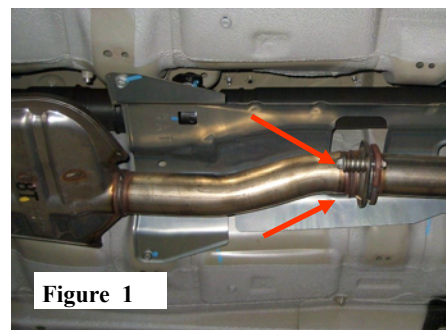

Figure 1
1. Unbolt the flange shown located just in front of the mid-muffler. Place the hardware to the side for use during the installation of your new exhaust system. (See figure 1)